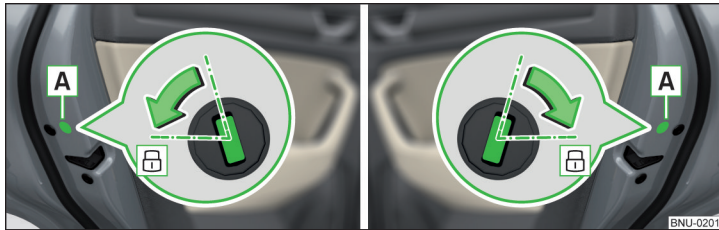

Fig. 343 Left door/right door:
- › In vehicles with the panel **A**, remove this panel » Fig. 343.